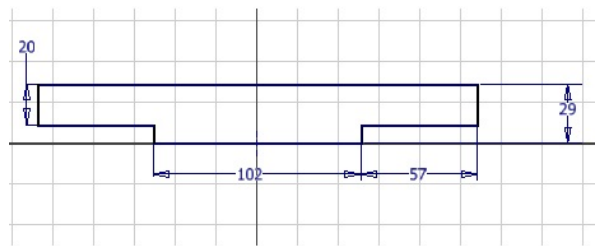

Figure 6-105 Sketch for the base feature
- Start a new part file and invoke the Sketching environment. Create the sketch for the base feature on the XZ plane and extrude it to a distance of 102 mm, refer to Figure 6-105.
4. Create the sketch for the base feature. Add the required constraints and dimensions to it. The sketch after adding constraints and dimensions is shown in Figure 6-105.